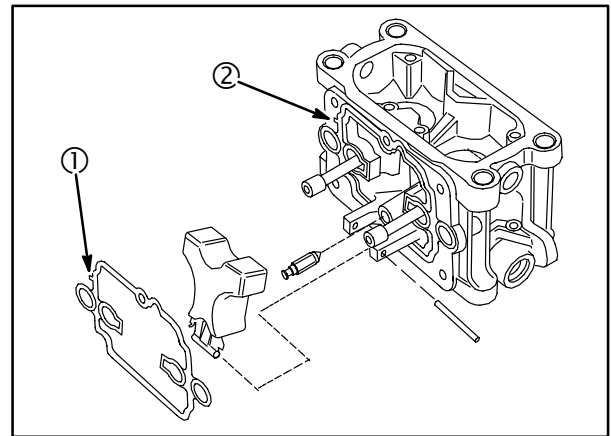

Fig. 133
4. Assemble inlet needle to float. Install float, **Fig. 133**.